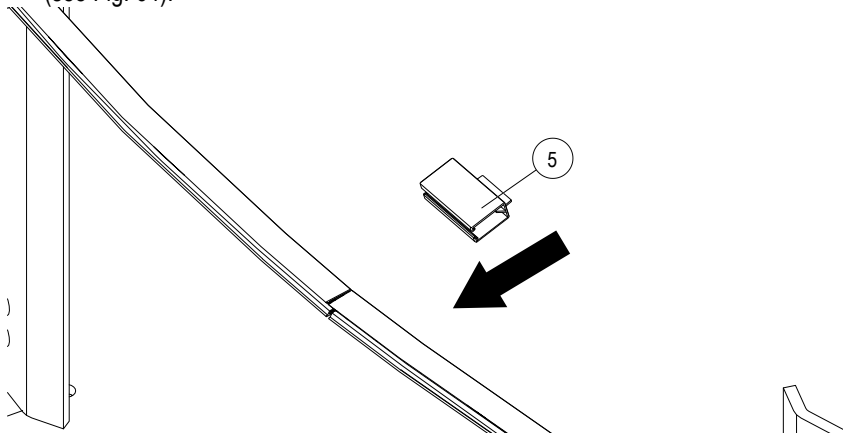
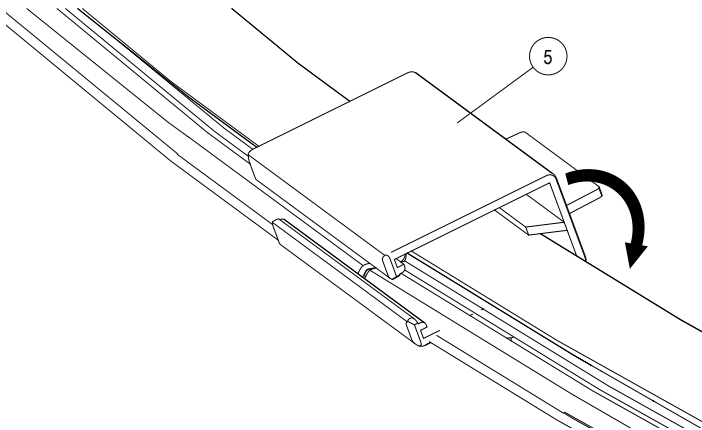
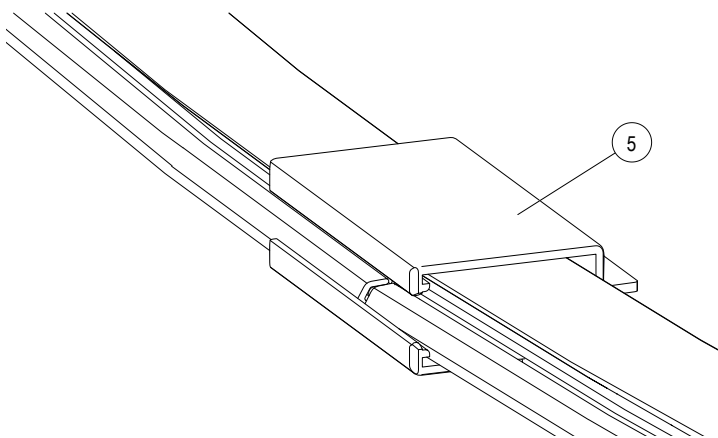

Fig. 62: Slide the connector cap (Pos. 5) from behind
Fig. 63: Mount the connector cap (Pos. 5) in the insulating profile
Fig. 64: The connector cap (Pos. 5) is completely mounted on the insulating profile
→ Slide the connector cap (Pos. 5) over the insulating profile from behind (see Fig. 62) in order to mount the connector cap (Pos. 5) in the insulating profile (see Fig. 62 and Fig. 63). The connector cap (Pos. 5) must completely enclose the insulating profile (see Fig. 64).
- Slide the connector cap over the connection point from behind and mount it in the insulating profile (see Fig. 62 - Fig. 64).